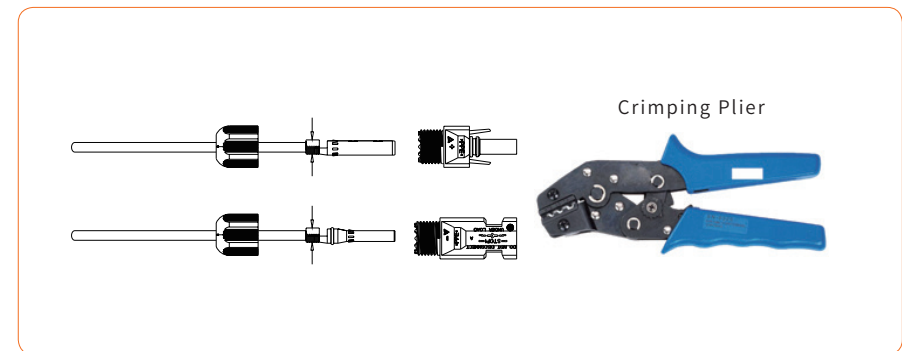

Figure 4-19
④ Insert the DC cable through the DC connector nut into the metal terminal and press the terminal with a professional crimping plier (pull back the cable with some power to check if it's tight enough), as shown in Figure 4-19: